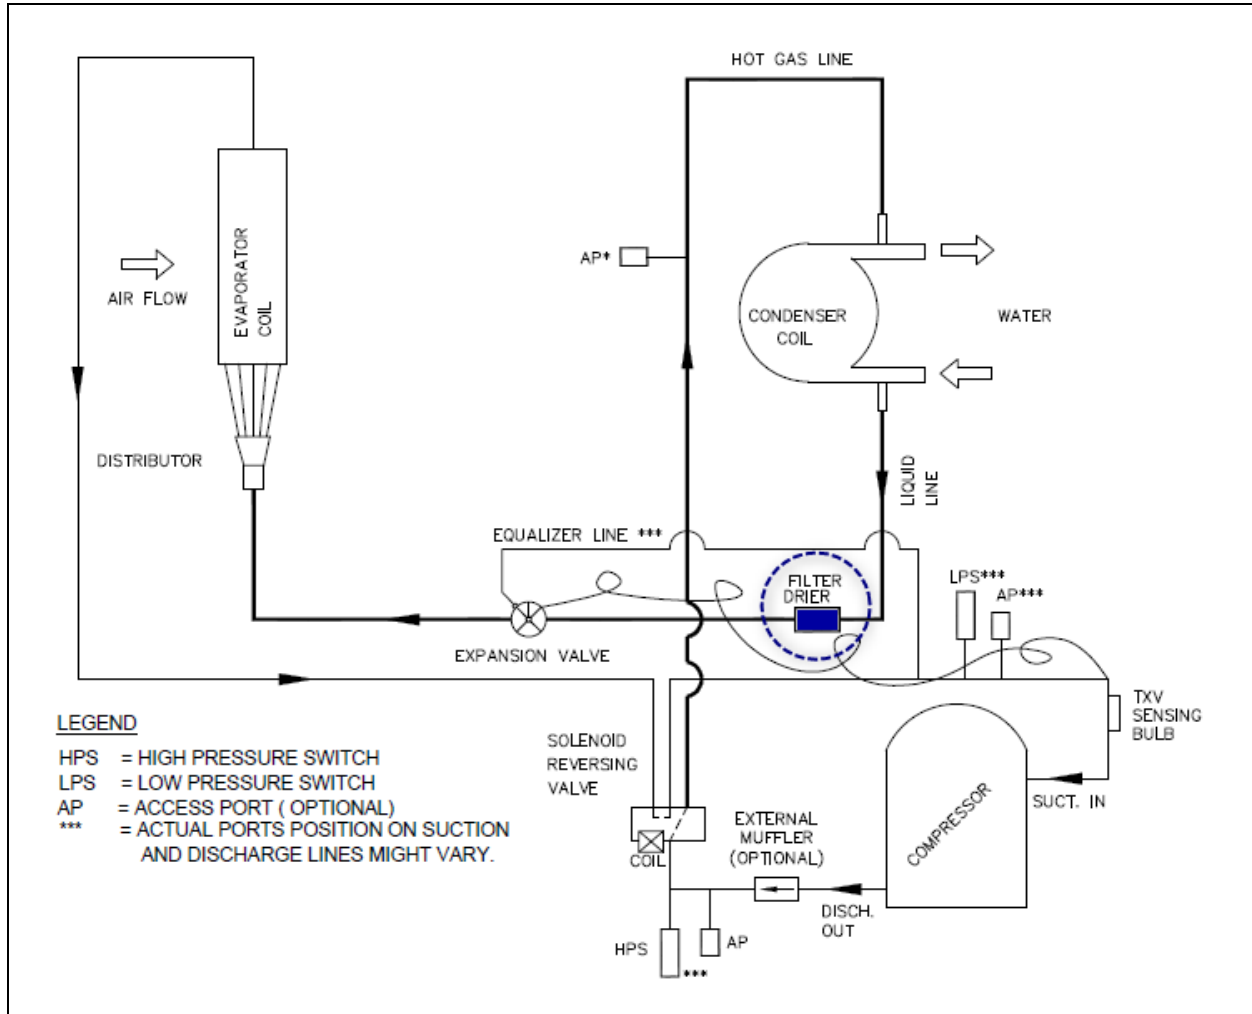

Figure 13. Piping Schematic. Filter drier and overall components location.
- 17) Install filter drier between TXV and water coil. See Figure 13.